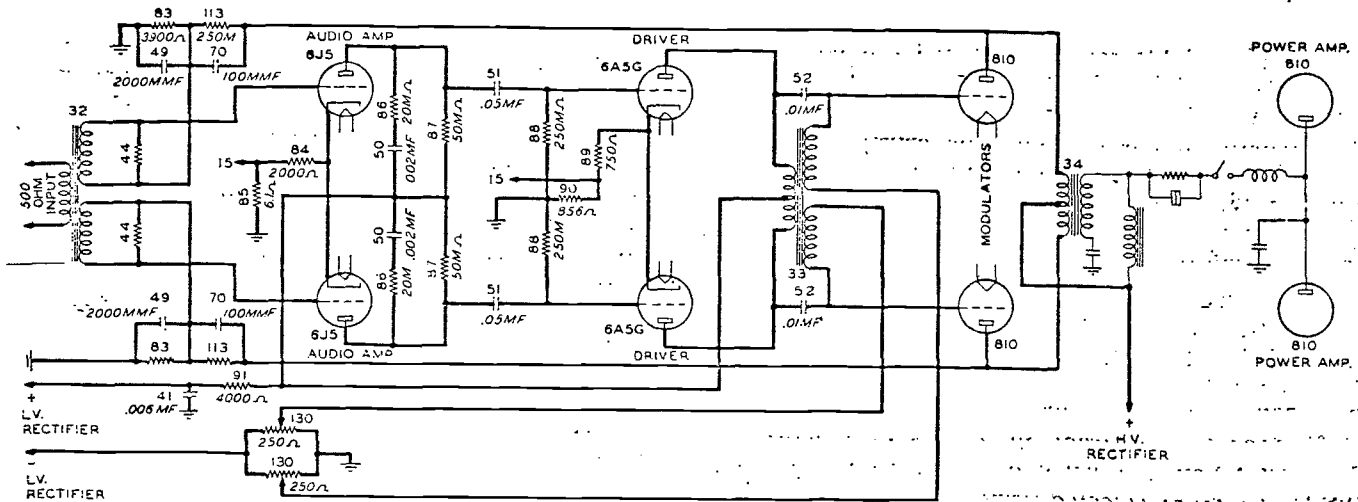

Figure 2-12. Audio Driver and Modulator Schematic
f. AUDIO CIRCUITS. (Refer to figure 2-12.)-